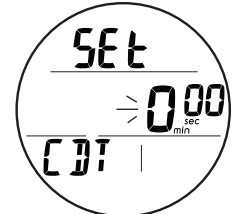

Fig. 138 - SET FREE CDT
**Set CDT**, information includes (Fig. 138):